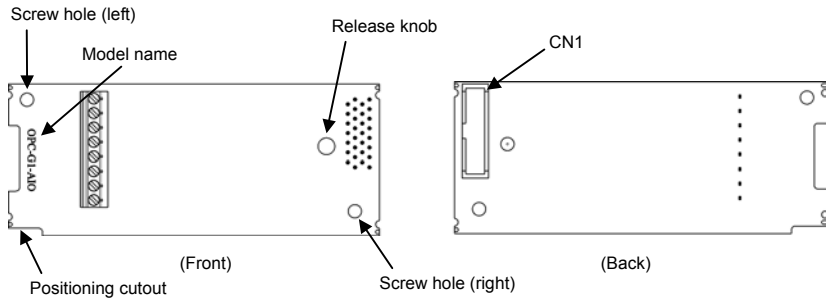

Figure 1.1 Name of Parts on Analog Input/Output Interface Card (OPC-G1-AIO)
- (1) An interface card, two screws (M3 × 8), and the Analog Input/Output Interface Card Instruction Manual (this manual) are contained in the package.
- (2) The interface card is not damaged during transportation—no defective parts, dents or warps.
- (3) The model name "OPC-G1-AIO" is printed on the interface card. (See Figure 1.1.)
- (2) Insert connector CN1 on the back of the interface card (Figure 1.1) into any of the A-port (CN4), B-port (CN5), and C-port (CN6) on the inverter's control PCB. Then tighten the two screws that come with the card. (Figure 1.4)
**Note** Check that the positioning cutout (shown in Figure 1.1) is fitted on the tab (Ⓢ in Figure 1.3) and connector CN1 is fully inserted (Ⓣ in Figure 1.3). Figure 1.4 shows the interface card correctly mounted.
- (3) Perform wiring on the interface card.